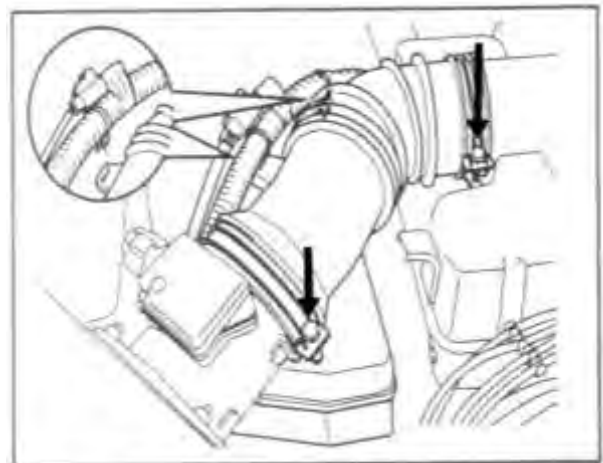

Fig. 3
- d. Loosen the inlet pipe hose clamp. (Fig. 3)
- i. Separate the MAF sensor wire from the air cleaner hose. (Fig. 3)